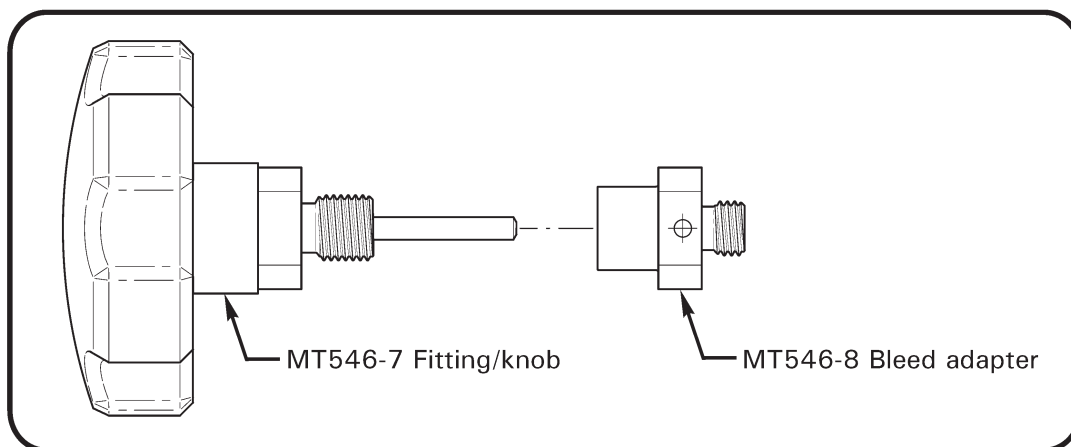

FIGURE 2
3. Refer to Figure 2. Unscrew MT546-8 bleed adapter from MT546-7 fitting. Install adapter into D760-5 port and special torque to 40 in.-lb. In a well-ventilated area, screw MT546-7 fitting into adapter until the noise of escaping gas is heard. Screw fitting in or out to adjust flow rate. Finish bleeding cylinder with fitting fully in. When noise ceases, verify cylinder pressure gage indicates zero. Remove fitting and adapter.